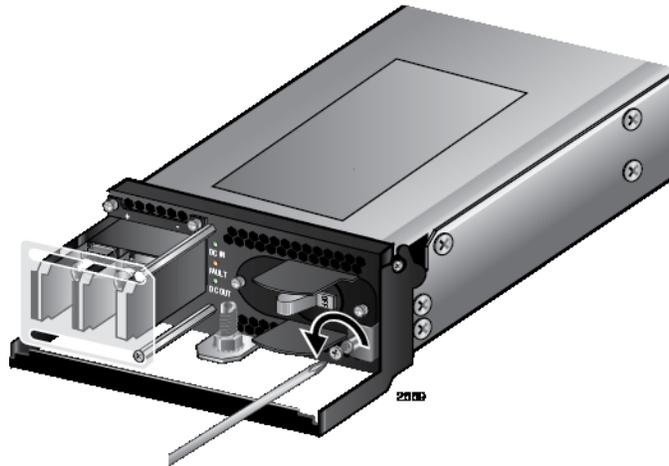

Figure 52. Loosening the Handle locking Screw on the SBxPWRSYS1-80 DC Power Supply
4. With a #2 Phillips-head screwdriver, loosen the handle locking screw on the power supply, as shown in Figure 52.